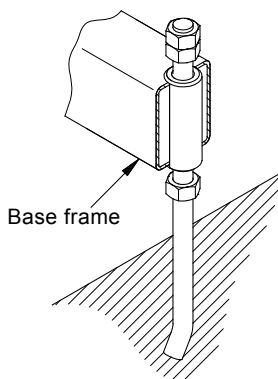
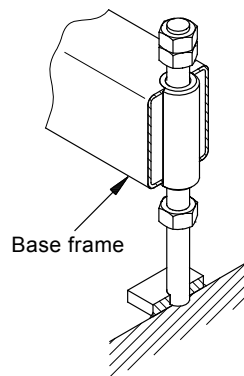

Fig. 3 Concrete foundation
Fig. 4 Steel floor
**Note** Fasten the pump with four foundation bolts. The base frame has additional holes for this purpose. The bolts can be secured to a concrete foundation or welded onto a steel floor. See figures 3 and 4.
**Note** Prior to startup, the nuts should be slackeden. See fig. 3 concrete foundation and fig. 4 steel floor. The nuts must be counter-locked.